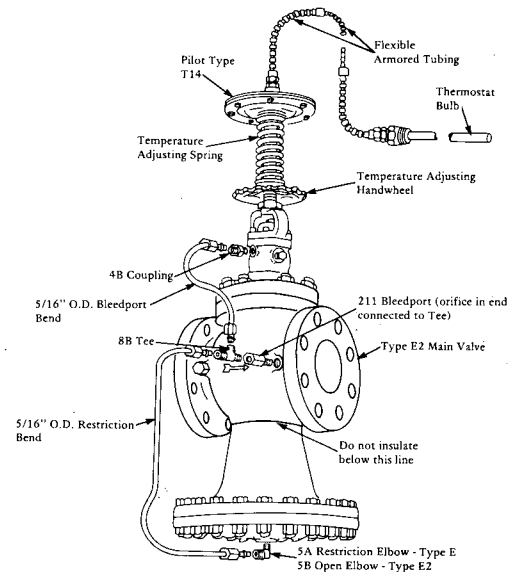

Fig. 2 - Regulator assembly for Type ET14 or E2T14 with integrally mounted pilot
2. Screw No. 211 bleedport fitting into the 1/8 N.P.T. pipe tap on the outlet side of the main valve body. Note the orifice in this fitting - vital to the operation of the regulator. Screw No. 8B tee fitting into the No. 211 fitting (Refer to Fig. 2).
5. Connect the two tubing bends provided as shown in Fig. 2.
1. Insulation may be applied to the globe and flanges of the main valve. Do not insulate the diaphragm chamber or any part of the pilot (See Fig. 2).
3. Open inlet stop valve gradually. Turn temperature adjusting handwheel to obtain desired control set point (See Fig. 2). Turning the handwheel up raises the temperature set point.
1. The main valve is normally closed, held so by an internal spring and initial pressure on the disc. The pilot is open when the thermostat temperature is below the setting of the temperature adjusting spring (See Fig. 2).